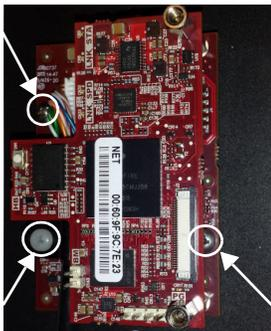

FIG. 1 REMOVE THE SCREWS TO SEPARATE THE CIRCUIT BOARD FROM THE FACEPLATE
- Use a Phillips-head screwdriver to remove the three screws that secure the circuit board to the faceplate. All three screws are connected to the bottom circuit board. (see FIG. 1).